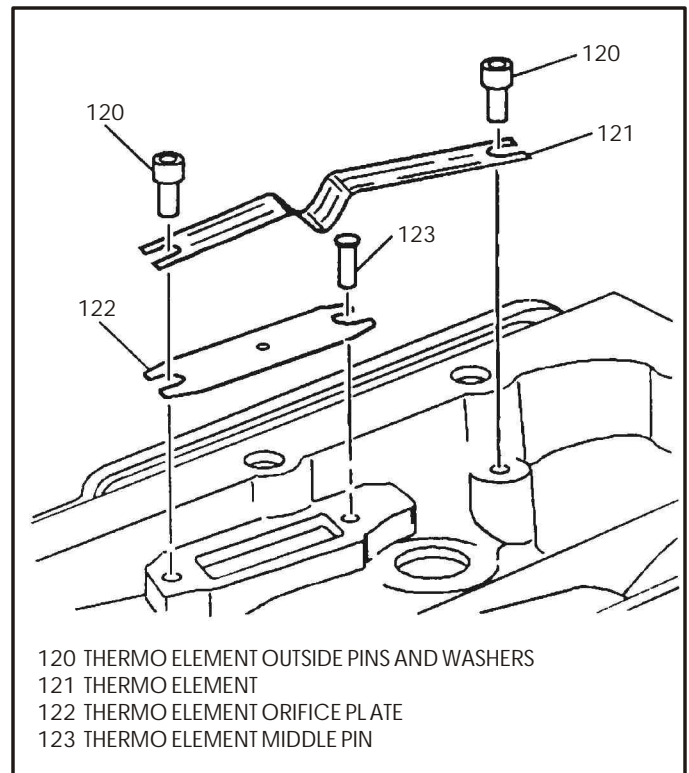

Figure 197
2. Install the thermo element orifice plate around middle pin (123), as shown in Figure 197.
5. Carefully install thermo element (121) between the two outside pins, as shown in Figure 197.
6. The "V" in the thermo element (121) **must** contact the thermo element orifice plate (122) after installation (See Figure 197).